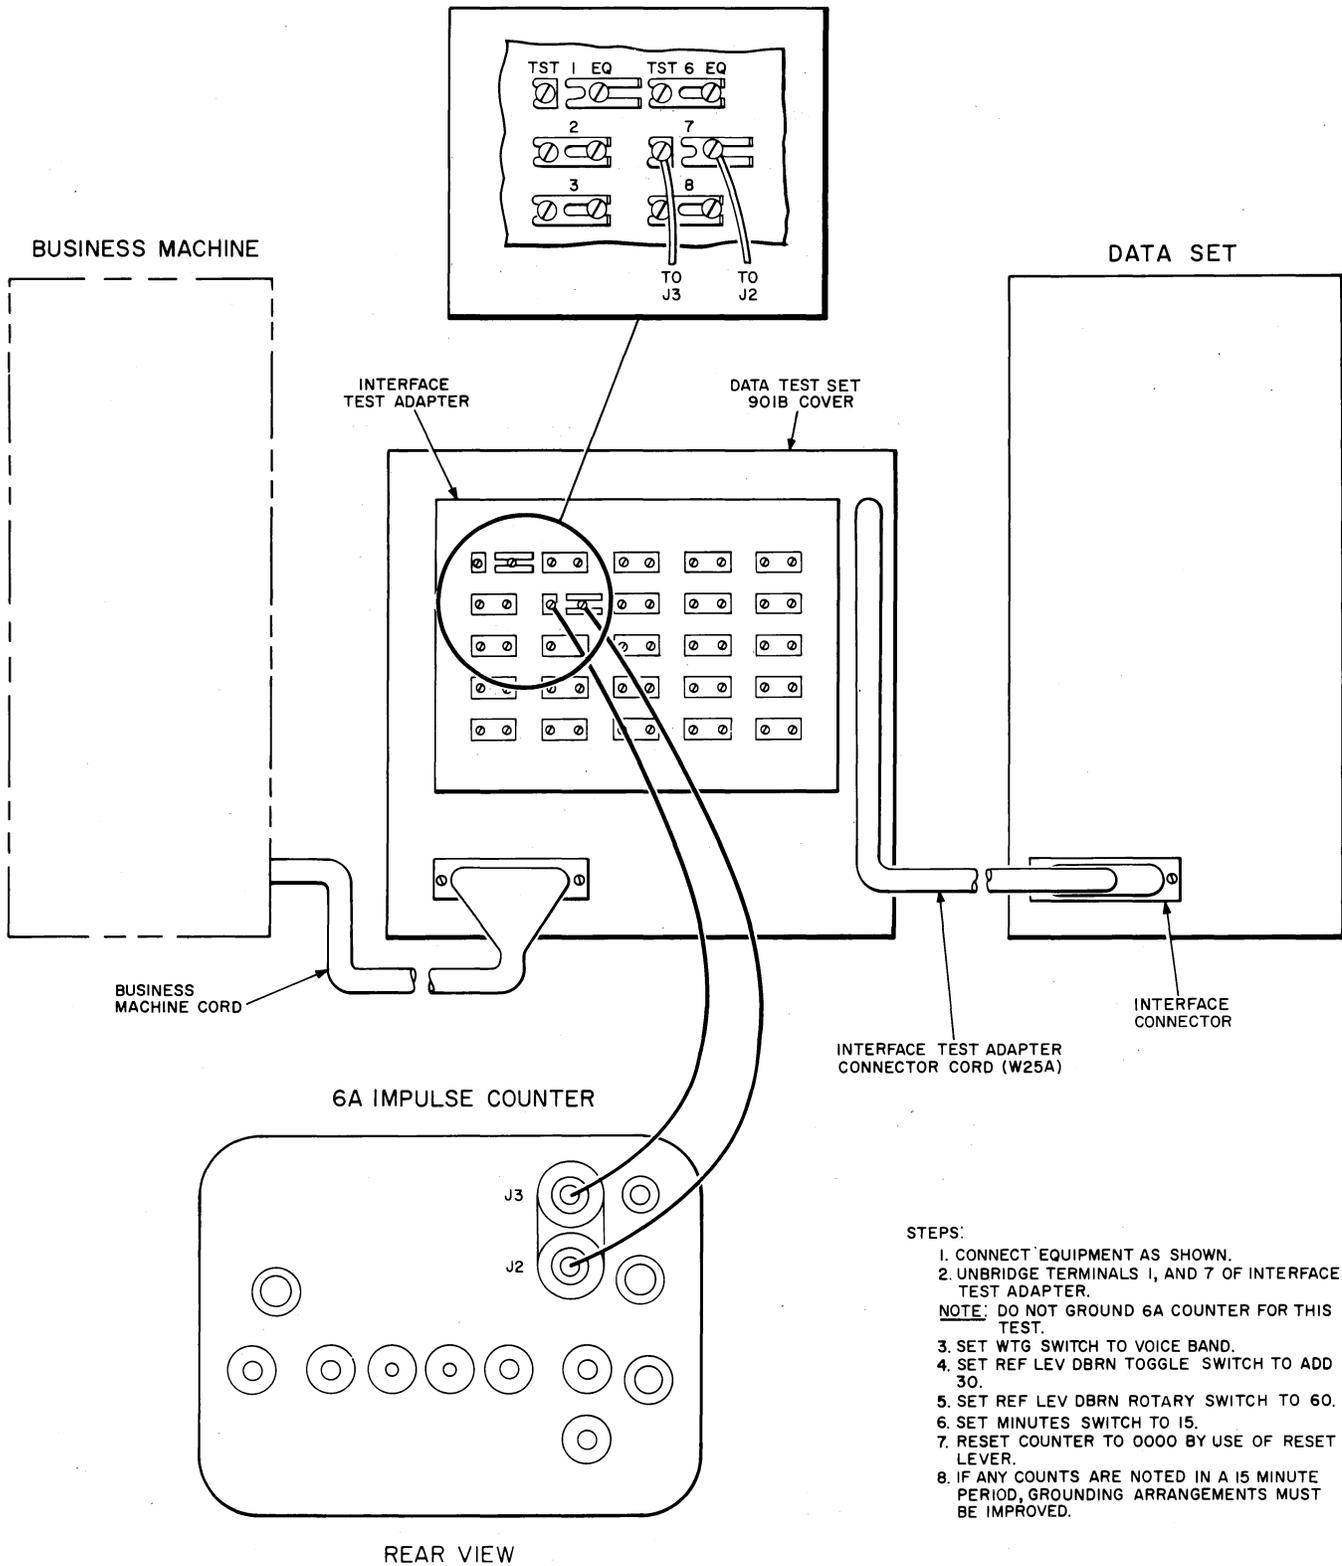
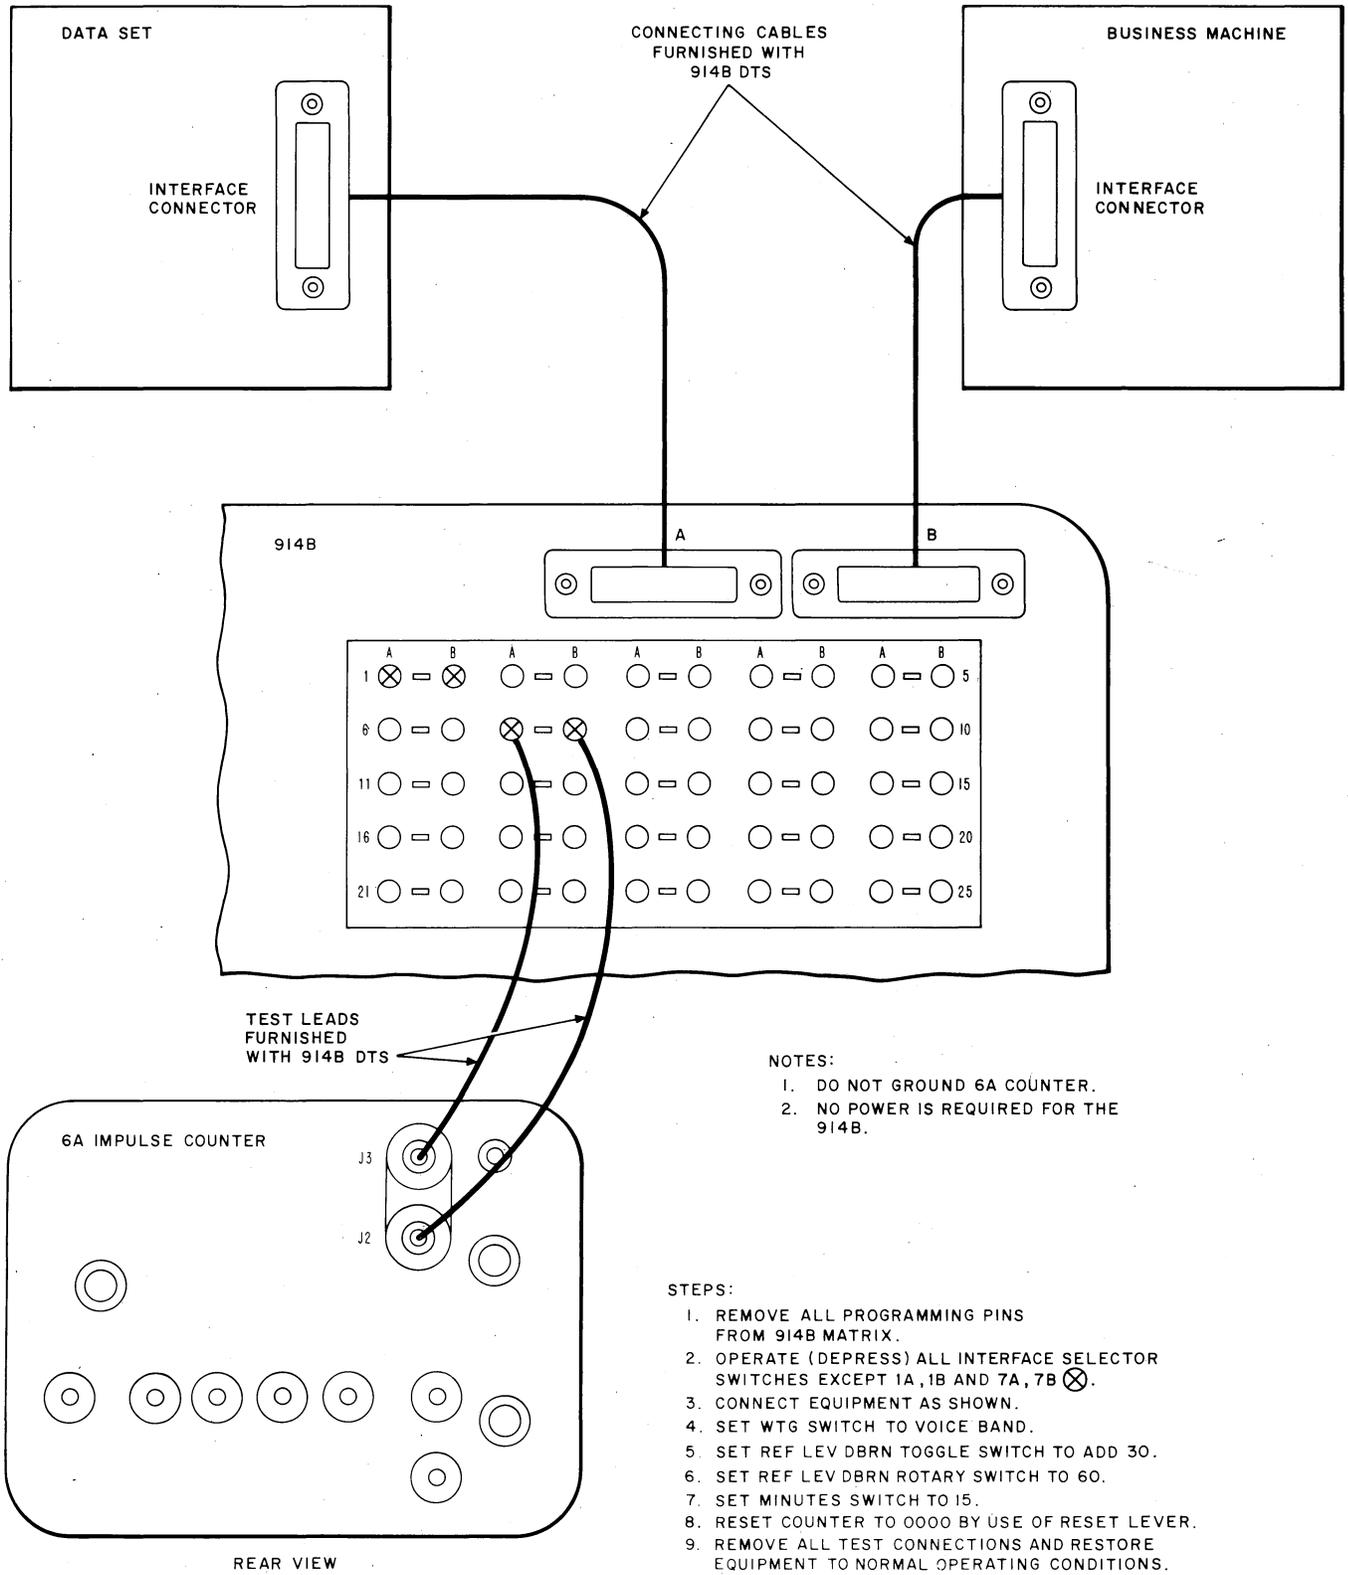

Fig. 1—Power Ground Noise Test Using 6A Impulse Counter and Interface Test Adapter
Fig. 2—Power Ground Noise Test Using 6A Impulse Counter and 914B Data Test Set
**2.04** The 6A impulse counter is connected and the test is performed as shown by either Fig. 1 if the 901B DTS is used, or Fig. 2 if the 914B DTS is used.